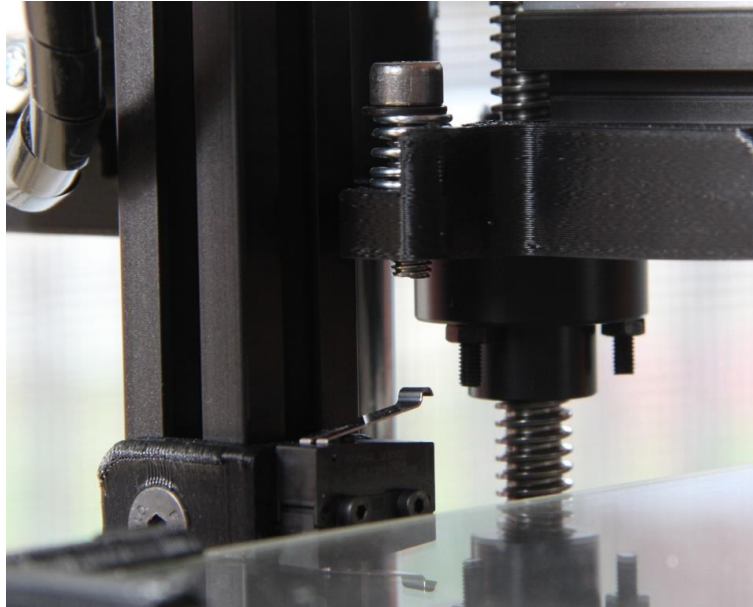

Figure 2.35: Z-axis endstop and the adjustable trigger screw
- Adjust the Z-axis endstop trigger screw in the back of right X-end (Figure 2.35) so the extruder's nozzle tip almost touches the HBP when the Z-axis endstop is triggered. You may need to raise and home the Z-axis several times to finish this step.